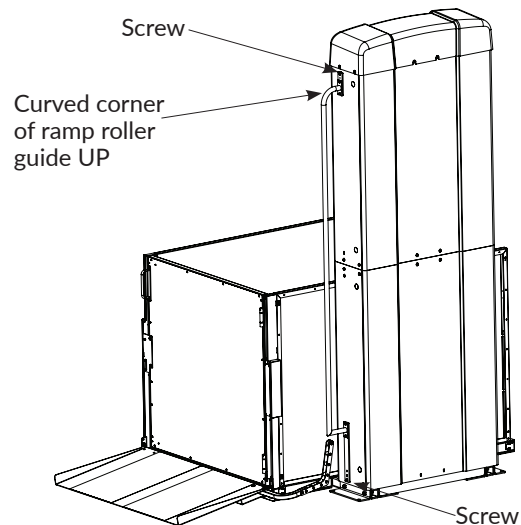

Figure 4-8
4. To install the ramp roller guide, remove the inside top and bottom side panel screws. **See Figure 4-8.**